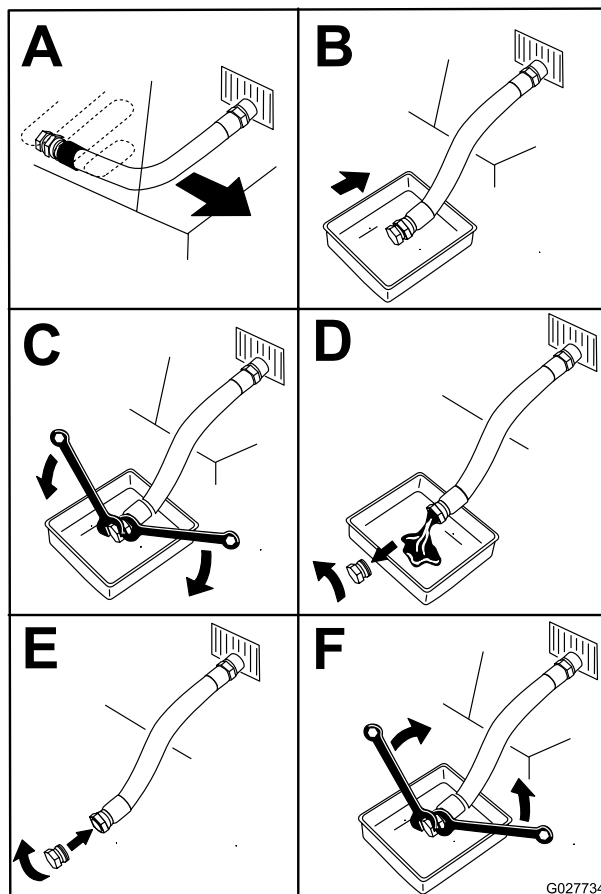

Figure 54
5. Drain the oil from the engine (Figure 54).